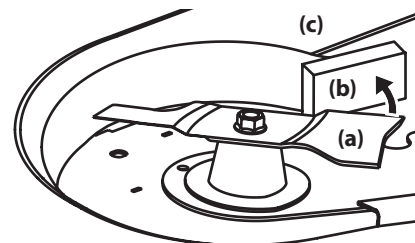

Figure 40
3. Wrap a rag around one end of the blade (a) and grasp it to prevent it from turning, or secure the blade (a) by placing a block of wood (b) between the blade (a) and the deck housing (c). See Figure 40.